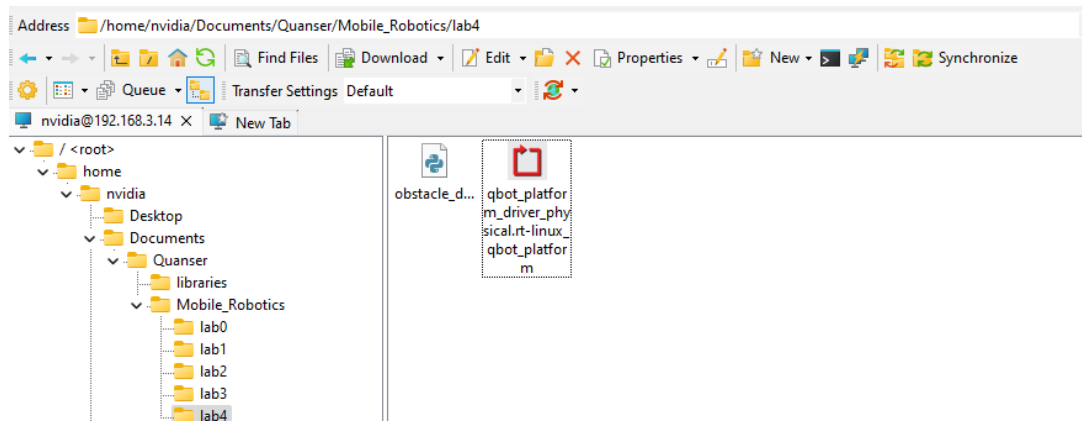

Figure 3. Correct directory for python script
- a. navigate to "`~\Documents\Quanser\Mobile_Robotics`" and create a new folder "`Lab4`", as shown in Figure 3. Then copy the updated obstacle\\_detection.py to "`Lab4`". In addition, copy the qbot\\_platform\\_driver\\_physical.rt-linux\\_qbot\\_platform over. (You can just drag the files over).